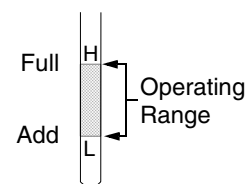

Figure 54
- Always keep the oil level between the 'H' (full) and the 'L' (add) marks on the dipstick. See Figure 54.
- SLOWLY pour oil into the crankcase until the oil level reaches the “FULL” mark on the dipstick. Refer to Figure 54.